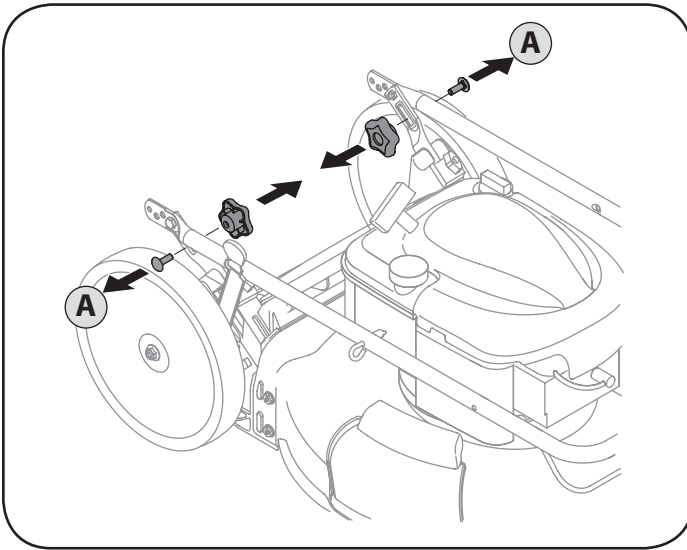

Figure 1
- a. Remove wing nuts and carriage bolts from handle as shown in Figure 1. Do not loosen or remove adjacent hex head screws.